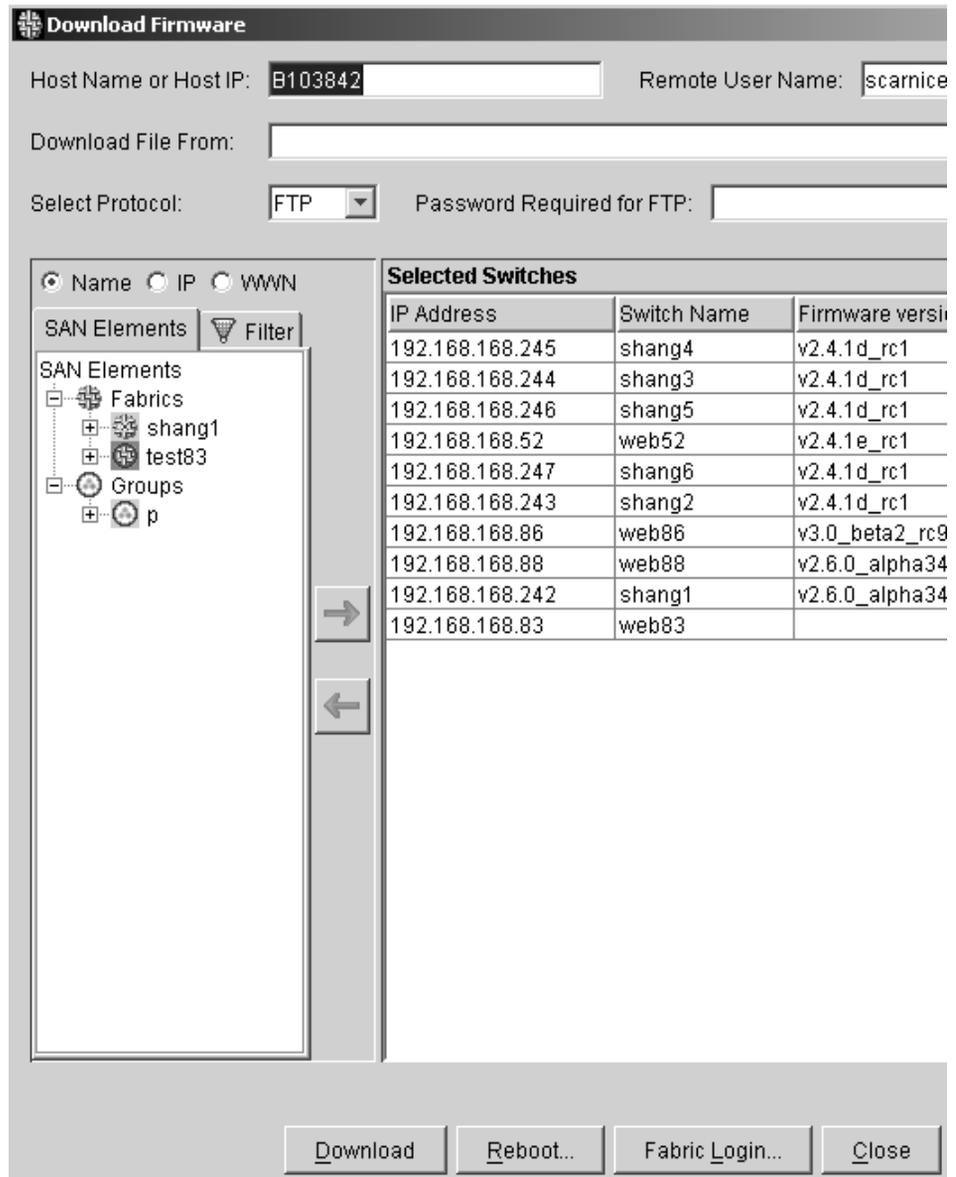

Figure 47: Download Firmware dialog box
- Click **Login Setup** from the **Firmware Download** dialog box, as shown in Figure 47.
Use the Download Firmware dialog box to upgrade the firmware of multiple switches simultaneously. The Download Firmware dialog box is shown in Figure 47.